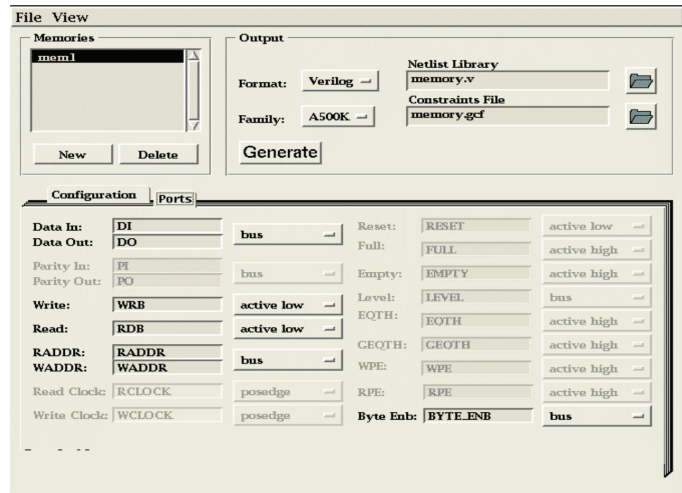

Figure 1-3. MEMORYmaster Window Ports Tab
The Ports tab, shown in Figure 1-3, allows the specification of names for ports used in the netlist. Default names are automatically provided. Only those signal fields relevant to the selected memory type will be active.
7. **On Ports tab, shown in Figure 1-3, specify the names for ports used in the netlist.** Default names are automatically provided. Only those signal fields relevant to the selected memory type will be active